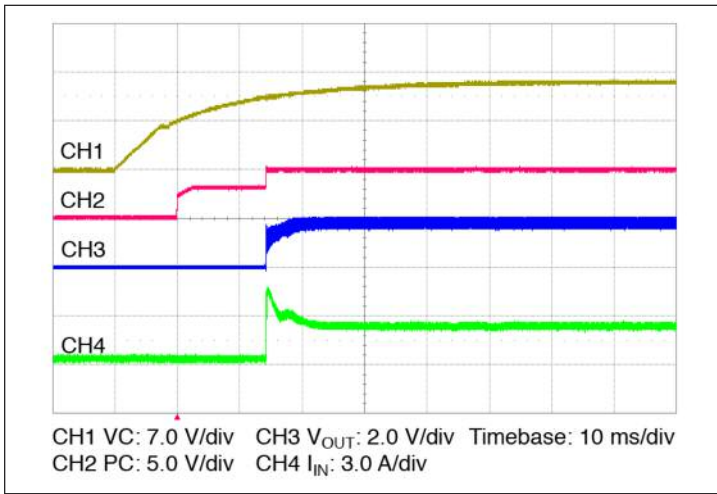

Figure 11 — Start up from application of VC;
- **Stand-alone operation (VC applied after VIN):** In this case the VTM output will begin to rise upon the application of the VC voltage (See Figure 11). The Adaptive Soft Start Circuit (See Section 11) may vary the output rate of rise in order to limit the inrush current to its maximum level. When starting into high capacitance, or a short, the output current will be limited for a maximum of 120 µsec. After this period, the Adaptive Soft Start Circuit will time out and the VTM module may shut down. No restart will be attempted until VC is re-applied or PC is toggled. The maximum output capacitance is limited to 27000 µF in this mode of operation to ensure a successful start.